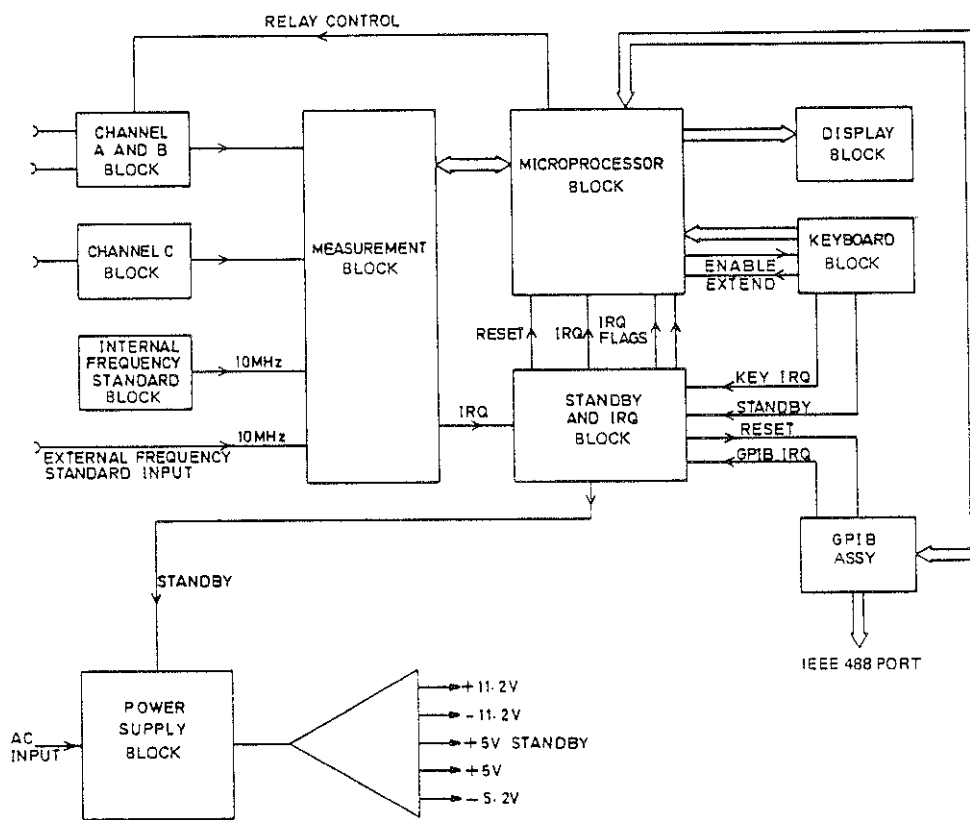

Figure 5.1 - Simplified Overall Block Diagram
**5.1.2**            The theory of operation provided is based on the simplified overall block diagram shown in Figure 5.1. Key circuit blocks of the 1992-02M are described and supported in this section using simplified block and schematic diagrams. These diagrams supplement the complete schematics found in Section 7 of this manual. As much as possible, the simplified schematic and block diagrams provided here are annotated with the same reference designators found in the complete schematics. This should facilitate cross-referencing between this section of the manual and the schematics.
**5.2.2**            The functional relationship between the blocks of the 1992-02M is illustrated in Figure 5.1. The measurement block is internally configured by the microprocessor according to the instructions entered via the keyboard or over the GPIB. The signal to be measured and the signal from the frequency standard are fed to the measurement block. The measured result is passed to the microprocessor. If mathematical manipulation of the result is required, this is performed by the microprocessor before the final output is passed to the display or system.